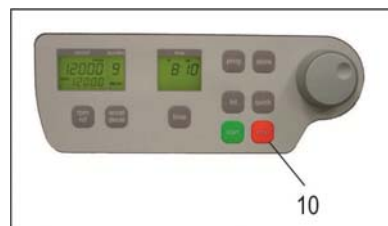

Figure 27
By the „stop“ key (10) (see figure 27) you can interrupt the run at any time. After pressing the key the centrifuge decelerates with the respective pre-selected intensity down to stand still.